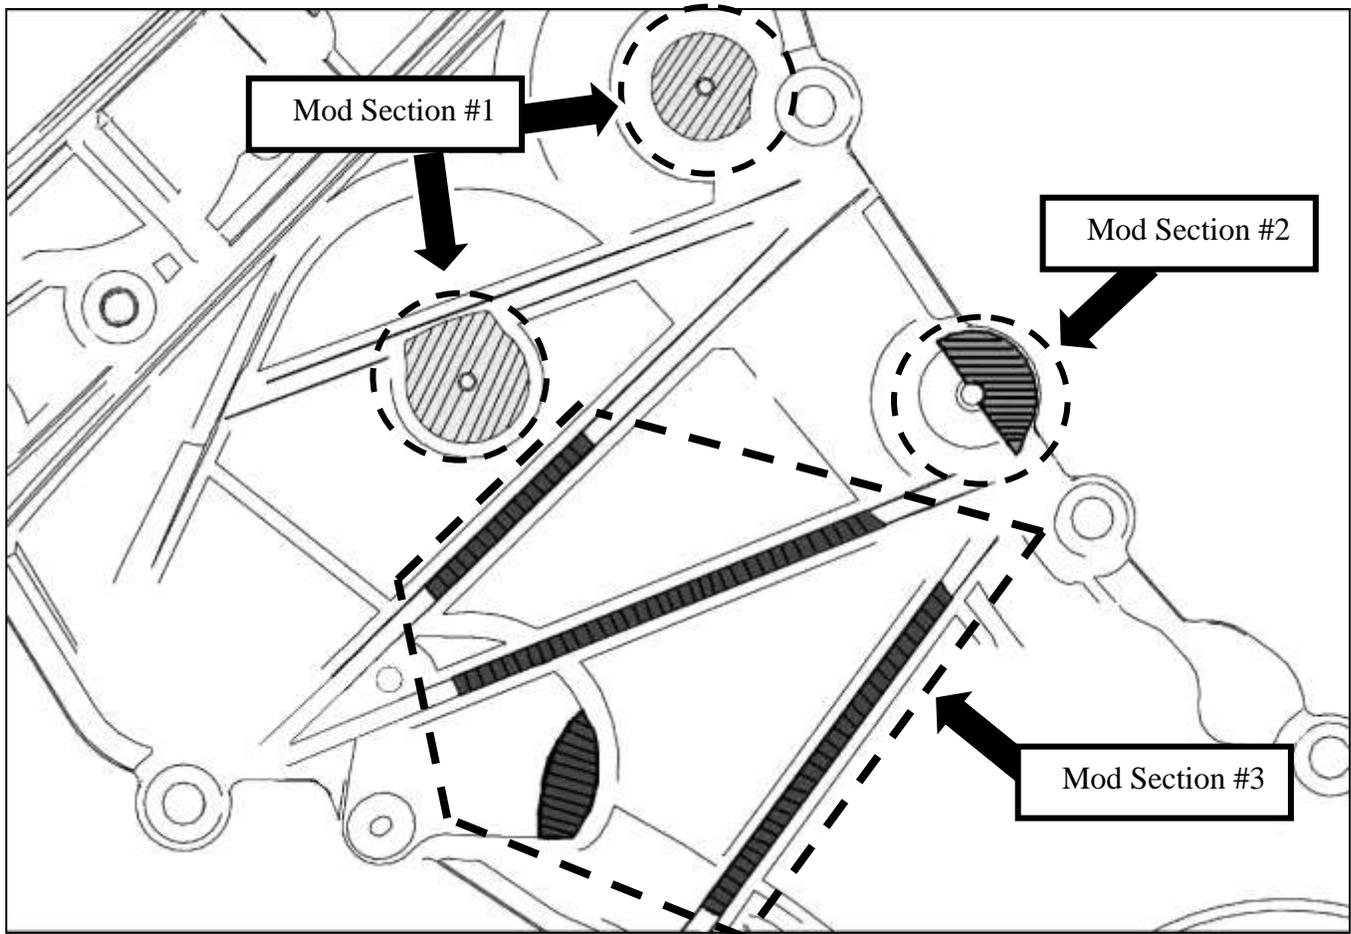
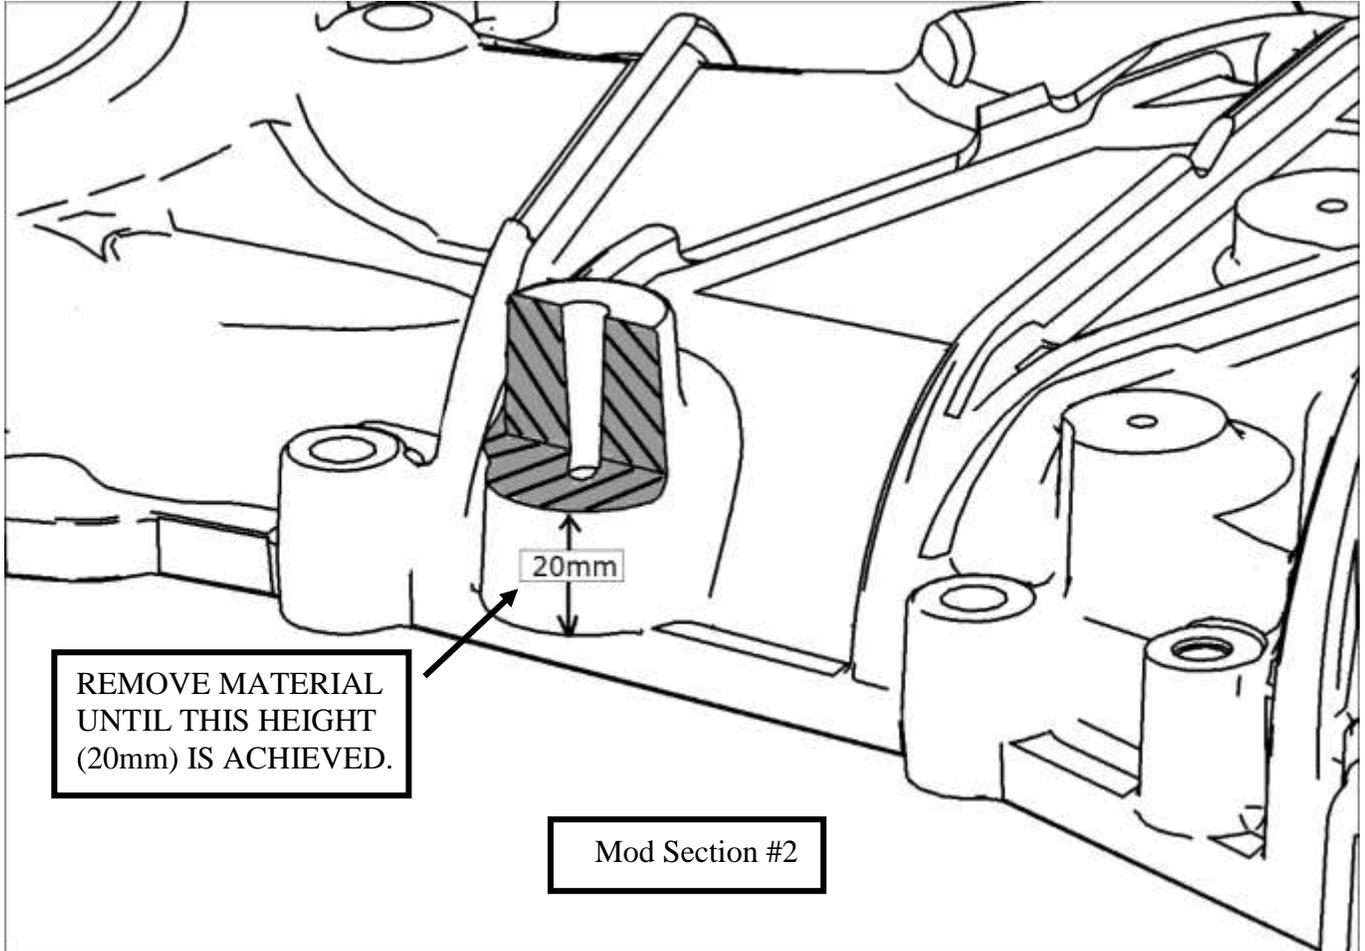

Figure 1
Figure 3
1. Using a grinder or cut off wheel, modify the front cover in the areas shown. Two bosses, labeled Mod Section #1 below, need to be reduced in height such that they are flush, or lower, than the height of the nearby rib structure (see Figures 1 and 2). The boss labeled “Mod Section #2” needs to be modified as shown in Figure 3. The remaining areas labeled “Mod Section #3” are portions of the rib structure which need to be removed completely (cut flush to the surface of the front cover). Refer to figure 4. Be careful not to remove too much material in these areas as permanent damage to the front cover could occur.